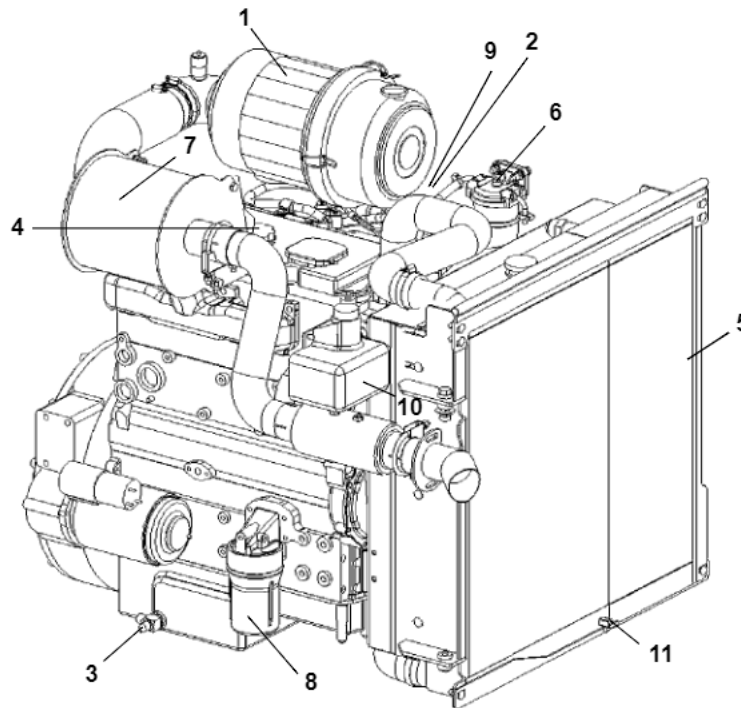

Figure 45 Engine Service Components
2. Place a pan under the hose behind the left rear tire and then open the valve (Figure 45, item 3) on the oil pan to drain the oil.
3. Remove the oil filter (Figure 45, item 8). Clean the filter sealing surface.
6. Remove the oil fill cap (Figure 45, item 4) and add the recommended oil. Refer to the *Lubrication* topic (page 57) for oil recommendations and capacities.
1. Remove the filter element (Figure 45, item 2) by unscrewing filter assembly.
1. Loosen drain plug on bottom of water separator (Figure 45, item 6) to drain water.
1. Open rear door. Check that the coolant recovery tank (Figure 45, item 10) is 1/3 to 1/2 full with a cold engine and 2/3 to 3/4 full with a hot engine.
2. **Radiator** – Open the drain valve located on the radiator (Figure 45, item 11) and drain the coolant into a suitable container.